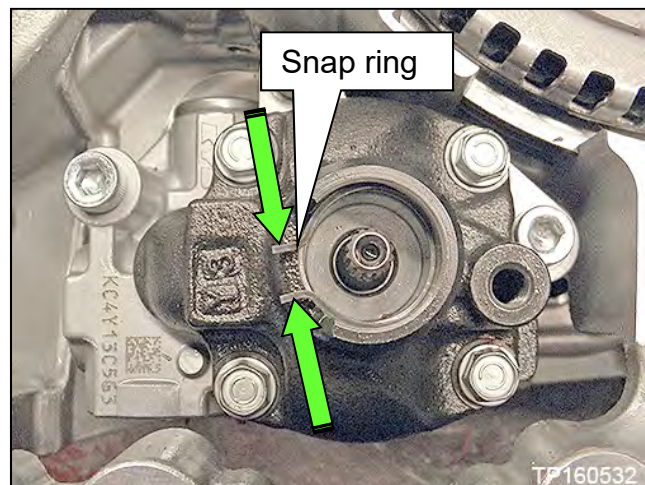

Figure 44
25. Remove the oil pump snap ring (Figure 44).